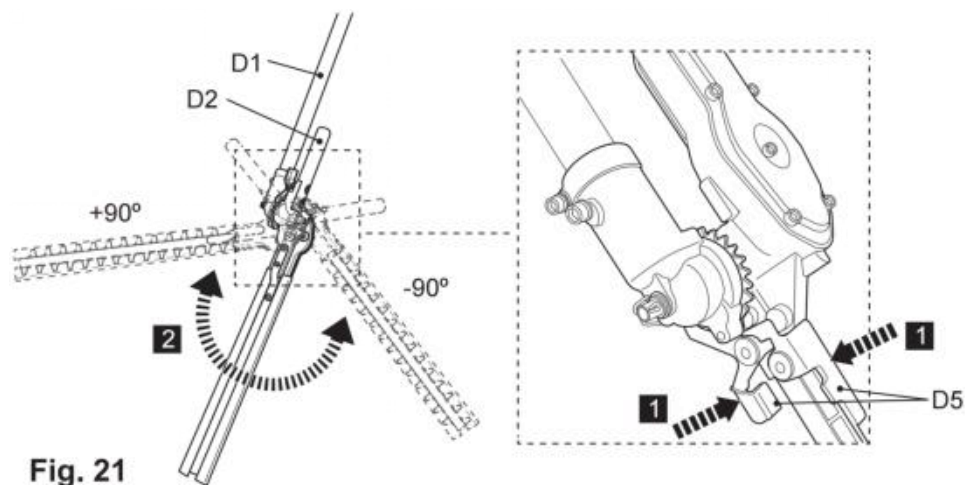

Fig. 21
5) Press the unlock levers (D5) to disengage the teeth system (D6) and adjust the blade head to the desired position (Fig. 21).